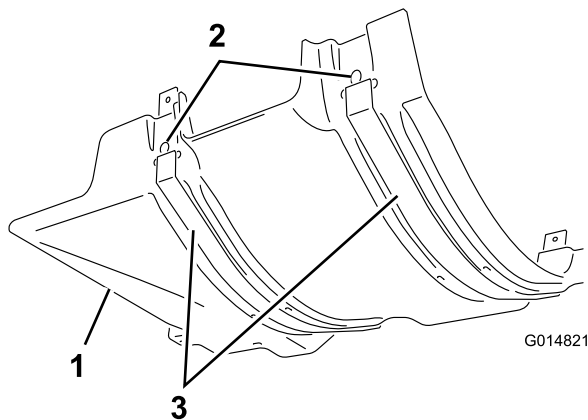

Figure 3
1. Insert the heat shield straps into the slots in the rear engine heat shield (Figure 3), and secure the straps to the shield with 6 plastic plugs.